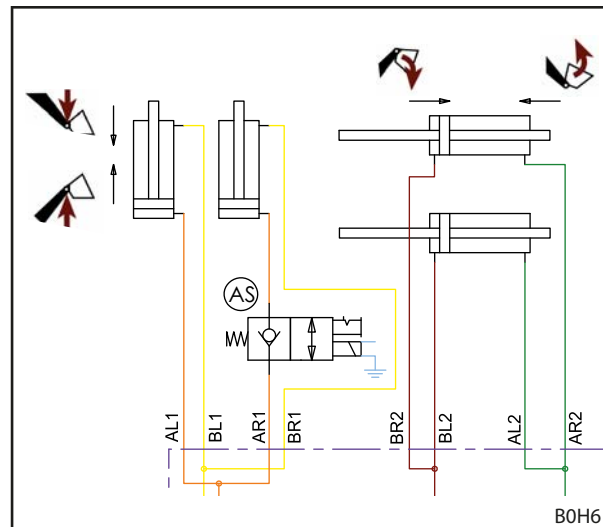

Fig. 135 Hydraulic plan for the anti-lowering guard
**i** Fig. 135 shows excerpts from the hydraulic diagram for the optional anti-lowering guard. Depending on the front loader, the rest of the hydraulic diagram corresponds to the illustration in 11.4.1 FS hydraulic diagram and 11.4.2 Hydraulics diagram FZ and FZ-L.